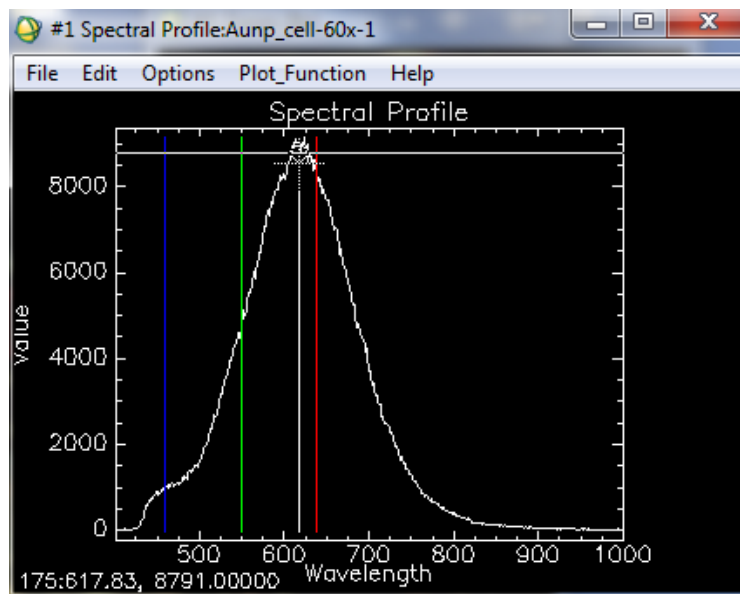

Figure 3.3a. The spectral profile with vertical cursor and data readout
- The spectrum contains data from all the image bands at a specific set of pixels chosen in an ROI or a spectral profile. The band number, wavelength, and spectral intensity can be displayed at the bottom left corner of the plot (Figure 3.3a).
- In this example (Figure 3.3a), the data show that the cursor is at band 175, the wavelength is 617.83nm and the intensity of the spectrum is 8791.00 units.